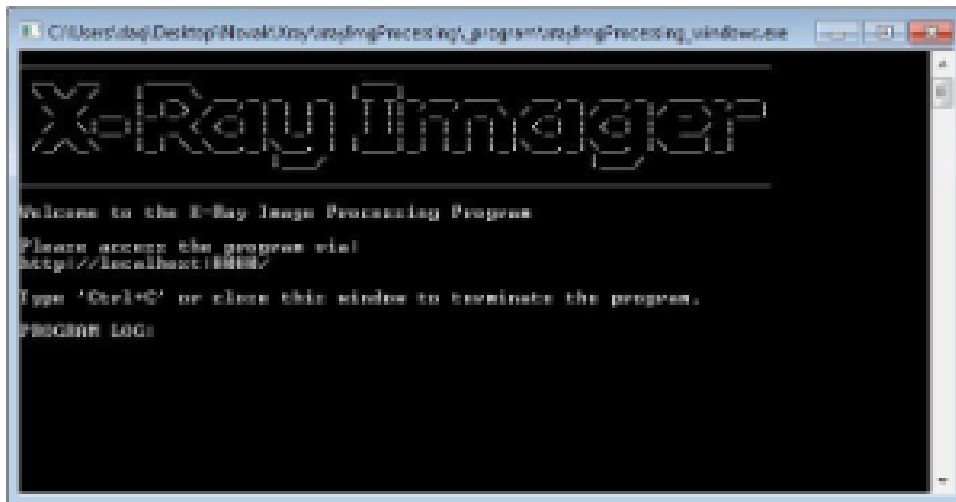

Figure 36. IODP processing X-ray Imager software command window
- a. This will trigger a command window to open (Figure 36). This command window will display the program status as images are processed. Refer to this screen to review what the processing software is doing or to check for any errors.